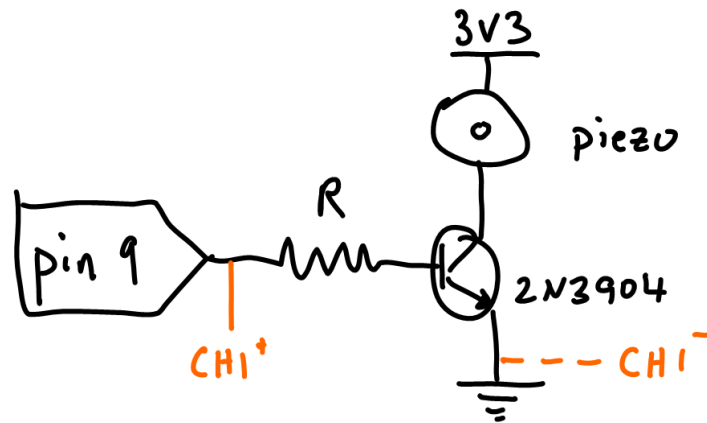

Figure 2: Circuit for the piezo element.
1. Build the circuit shown in Figure 2. The datasheet indicates that the piezo is meant to be driven using 3.3V – since the Arduino outputs 5V from each pin, you'll use a low-side driver. Size the resistor, R , using the rules-of-thumb for a low-side driver. Connect the oscilloscope as shown.